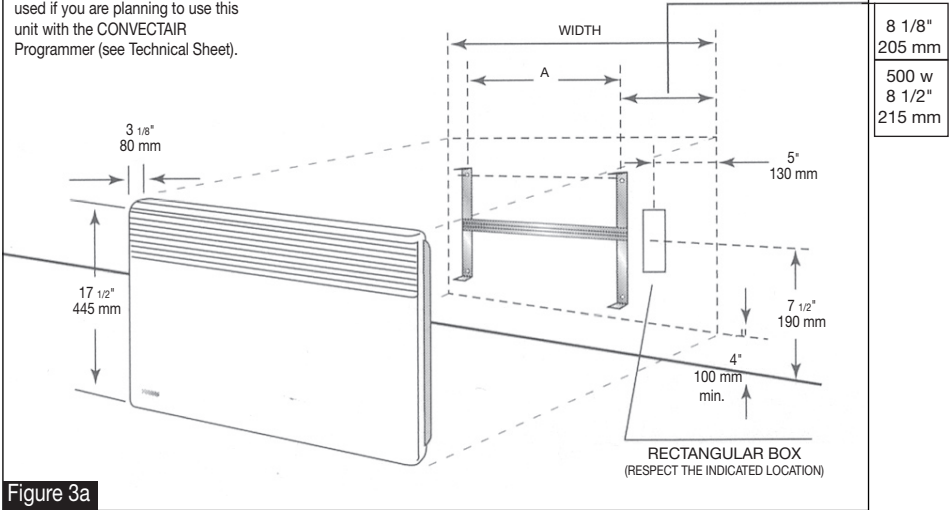

Figure 3a
- 2- Use the mounting bracket as a template by holding it against the wall flush to the floor. Use the B mark to locate the bottom fasteners. With the template the unit will be installed at 4 " (10 cm) from the floor (Figure 3a & 3b).
- A rectangular junction box must be installed in the wall, prior to electrical hookup (Figure 3a). The box must be of appropriate size to receive the necessary electrical connections and the 2 3/4" x 4 1/2" (70mmx115mm) cover that is supplied with the unit cable.